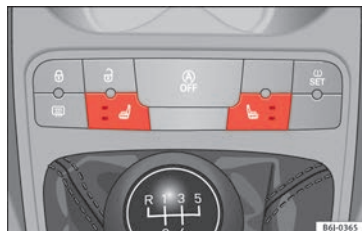

Fig. 125 Front seat heating switch.
- Press the corresponding switch »» Fig. 125 to switch on the seat heating.
- Press once to connect the heating at maximum force. The two LEDs illuminate »» Fig. 125. After 15 minutes of high intensity, the upper LED goes out, the system is deactivated for 2 minutes and is then reactivated at low intensity (the lower LED remains on permanently).